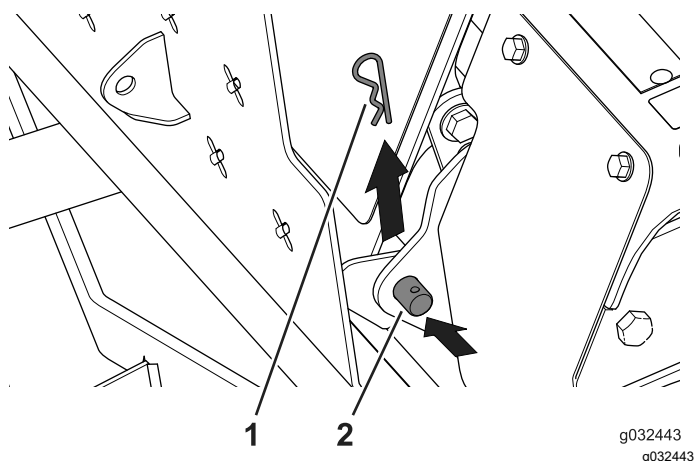

Figure 51
3. Remove the 2 hairpin from the pivot pins that connect the operator platform to the pivot bracket (Figure 51).
4. Have an assistant help you remove the pivot pins and the operator platform (Figure 51).